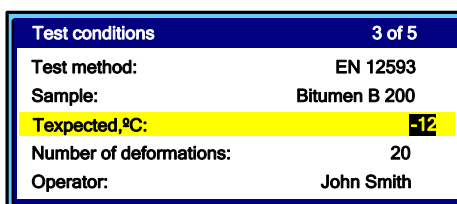

Figure 9 – Mode for entering the expected breaking point temperature
4.5.2.1 In waiting mode, press «*», select menu item «**Test conditions**» → «**Tested ,°C:**» and press «**Mode**». The tester enters the mode for entering the expected breaking point temperature (see figure 9).